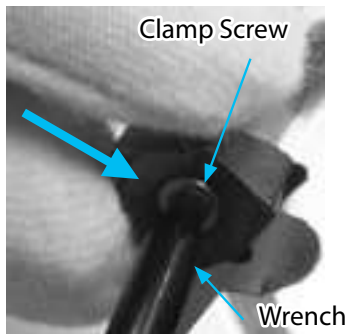

Fig. 1
- After mounting a clamp screw on the top edge of wrench, tighten the screw while keeping the insert pushed against the shim seat surface and holder surface (Fig.1)